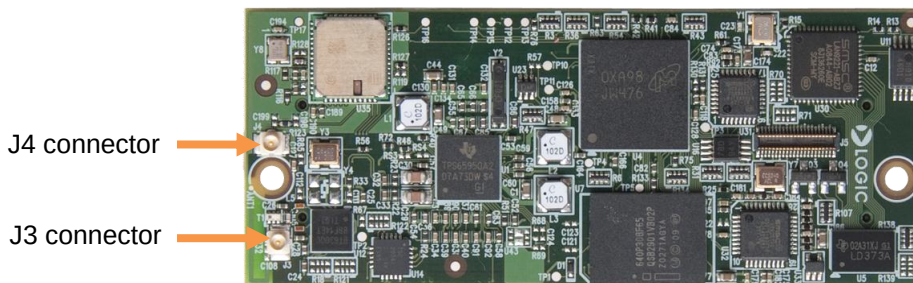

Figure 7.2: Antenna Connectors on SOM-LV
2. Connect the antenna to the SOM-LV reference designator J4 for 802.11 Ethernet reception or to reference designator J3 for Bluetooth reception. See Figure 7.2 for location of reference designators on the top of the SOM-LV.